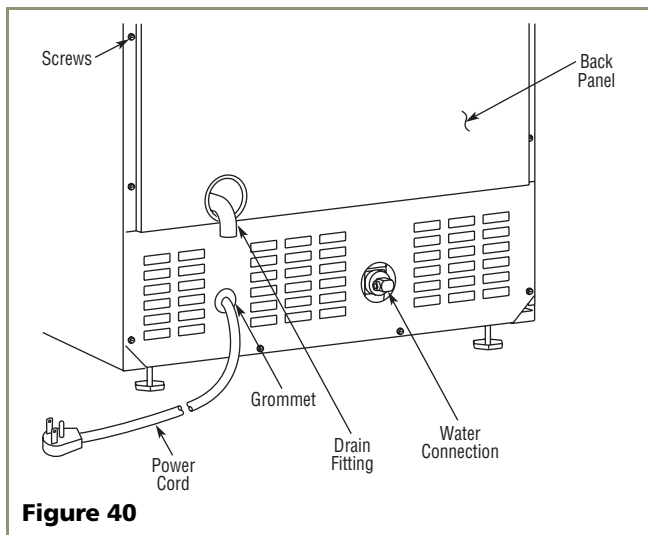

Figure 40
- Carefully push the power cord grommet through the hole in the back panel (see **Figure 40**, CLR2175 shown).